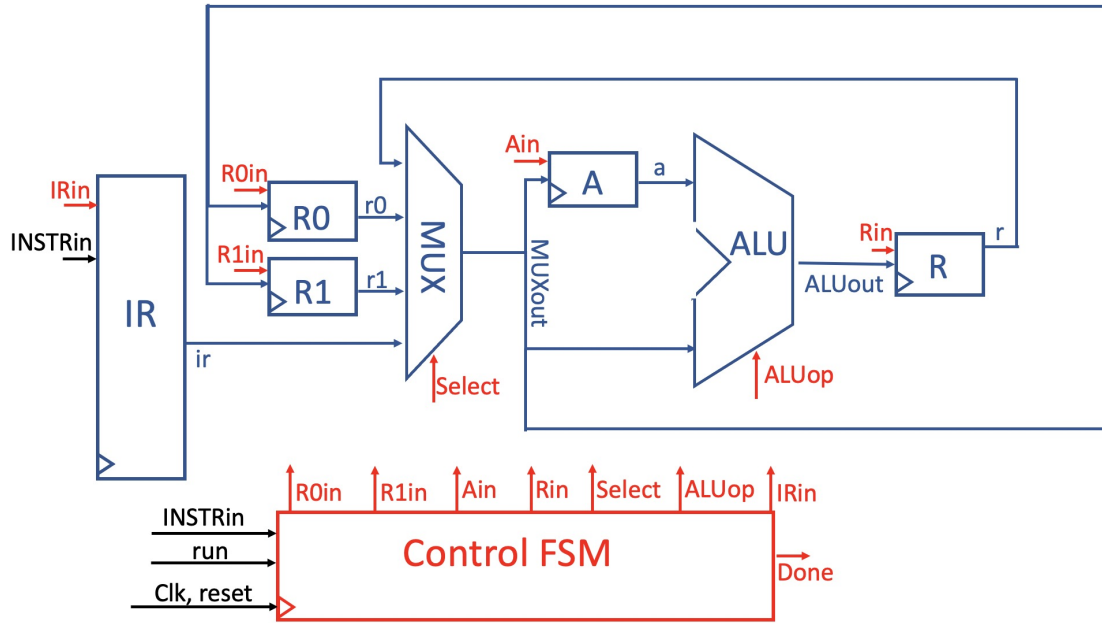

Figure 3: A Simple Processor
We will apply this knowledge to implement the processor shown in Figure 3. In the figure, the blue sections represent the processor's datapath, while the red sections represent the control path.
The processor's datapath can be thought of as an extension of the sequential ALU from Lab 3. This datapath consists of a couple of 16-bit registers, an instruction register (IR), a multiplexer, and an ALU. As seen in Figure 3, the multiplexer selects what inputs to feed into the ALU among the values from registers R0, R1, IR, and R. This data is either fed into Register A or directly into the ALU for computation, after which the ALU output is stored in register R. The output of the multiplexer can also be saved to either R0 or R1; this path is primarily used to store output values from R into register R0 or R1.
Table 3 lists the control signals from Figure 3 that need to be asserted in each time step to implement the instructions in Table 2. Only the signals from Figure 3 that need to be asserted in each time step are listed in Table 3; all other signals are not asserted. The ALUOP signal in step C2 is set to 00 for addition, 01 for subtraction, and 10 for multiplication.
1. You are given System Verilog skeleton code for the processor in Fig. 3 on Quercus (`part2_template.sv`). Read the code and make sure you understand what is going on.
5. Fill in the code for the datapath module using the Datapath schematic provided in Fig. 3 as a reference.